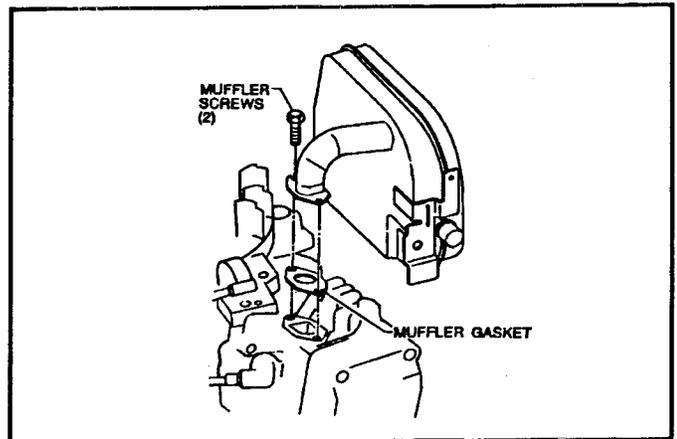

Figure 41
2. Remove the single 3/8" hex, washer head cap screw that retains the muffler bracket to the block of the engine. See Figure 41.